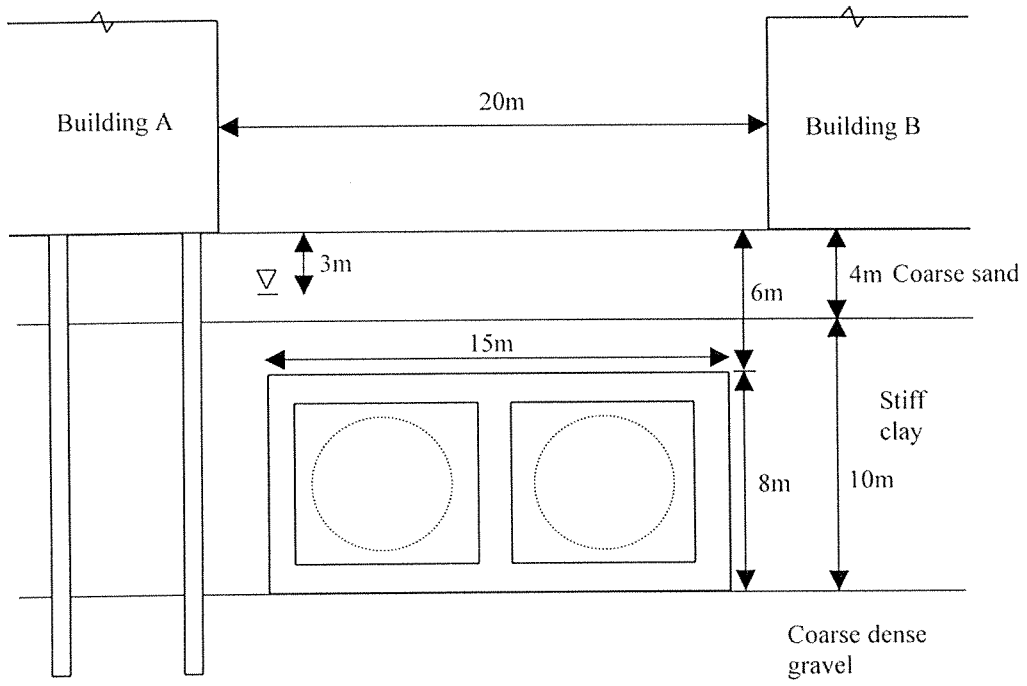

Fig. 2
2 You are undertaking a feasibility study for a new metro to be constructed beneath a major city. One of the lines is to run beneath a busy street, with buildings on both sides, as depicted in Fig. 2. The ground conditions are 4 m of coarse sand overlying 10 m of stiff clay, which is underlain by a coarse dense gravel. The water table is 3 m below ground level. The stiff clay has an undrained shear strength of approximately 100 kN/m².
Two buildings of concern to the client are depicted in Fig. 2. One building (A) is a modern multi-storey structure founded on piles bearing on the gravel. The other building (B) is of great historic value, built in the 18th century, of masonry construction and is on shallow foundations.
Advise the client on the relative merits of a reinforced concrete cut-and-cover twin tunnel box, as shown in Fig. 2, compared with two 5 m diameter bored tunnels which are shown dotted in Fig. 2. You need not discuss the relative costs. Your advice should address the following: